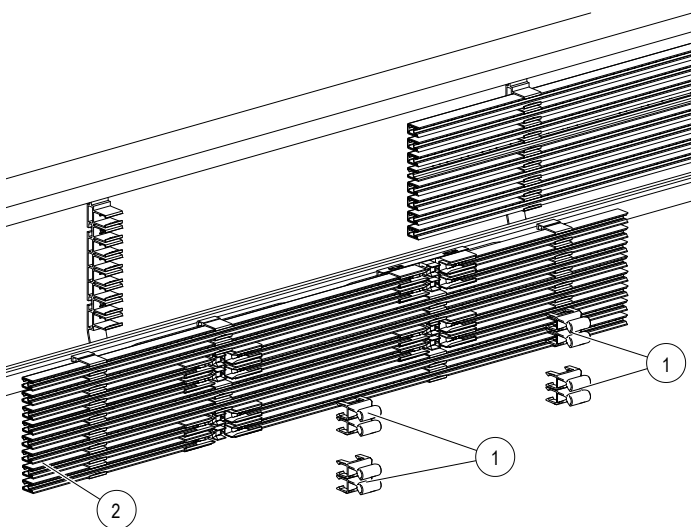
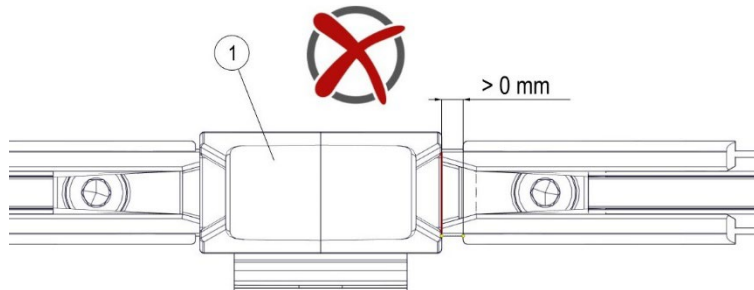

Fig. 71: Setting aids (Pos. 1) inserted in each expansion gap of the expansion module (Pos. 2)
Fig. 72: Setting aid (Pos. 1) is incorrectly mounted
- If the setting aids are available (Pos. 1 Order No.: 08-S902-0002P), these must be inserted in each expansion gap of the expansion module (Pos. 2) in such a way that they cannot be lost (see Fig. 71 to Fig. 72).